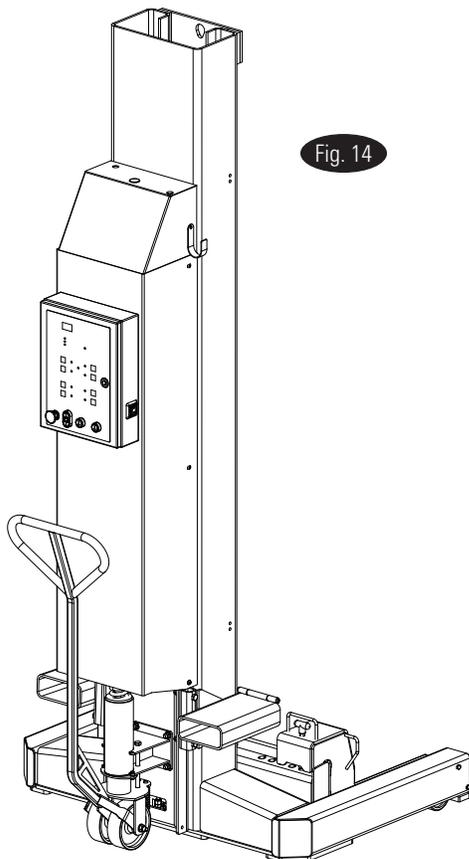

Fig. 14
- b.) Caster handle locks on wheel when handle is pivoted to the upright position, Fig. 14.